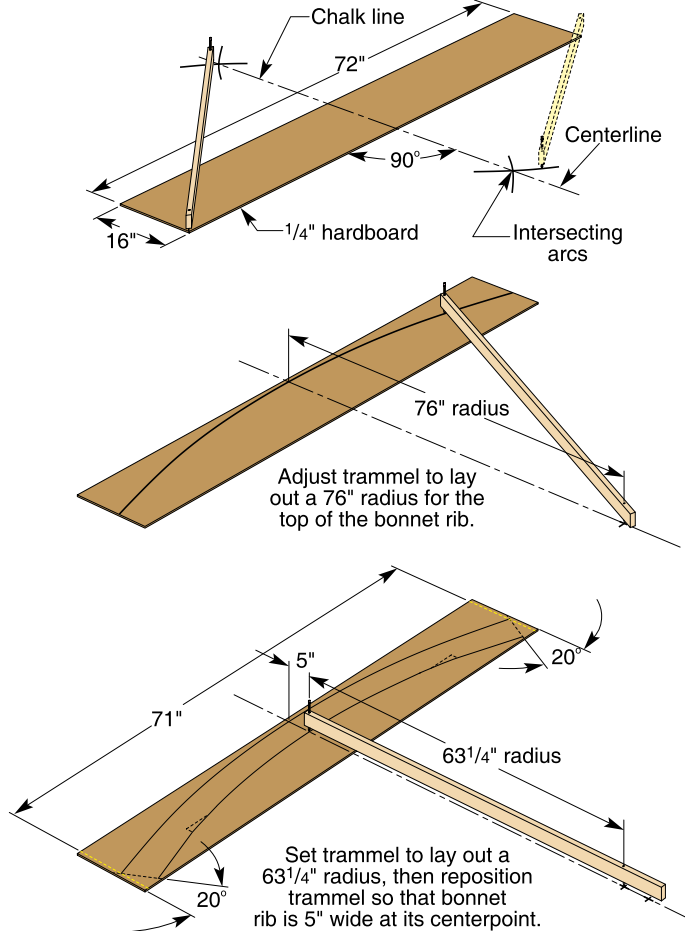

Fig. 5
1 MAKE THE TEMPLATE FOR THE FLARED BONNET RIBS (F) by attaching a 16 x 72" piece of 1/4"-thick hardboard to your floor with double-faced tape. Then follow the 3-step layout sequence as shown in **Figure 4**. (A pair of trammel points will help, but in a pinch, you can get by with a 2"-wide strip of plywood, pencil, and finish nails.) After laying out the top and bottom curves, measure and mark the ends of the bonnet rib pattern and the notches (**Figure 5**). Cut out the template on your bandsaw, then carefully sand up to your layout lines to create a smooth, or fair, curve.